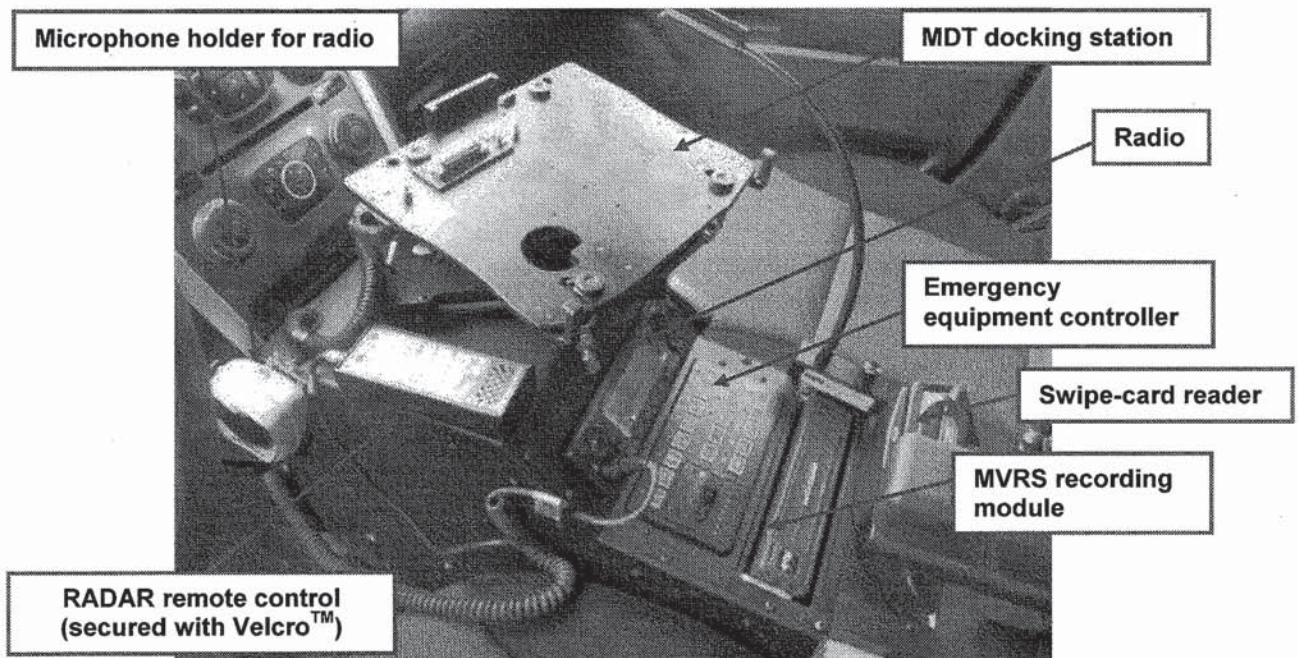

Figure 18 – Ergonomic mid-console configuration example
- d. An electronic swipe-card reader installed on the center console (see Figures 18 and 19).
31. *Figures 18 and 19* contain illustrated examples of ergonomic mid-console equipment configurations for use in Ford Police Interceptor Sedan marked MP vehicle. Although models and designs of commercially available ergonomic mid-consoles vary widely, the placement of police radio, emergency equipment controllers, and other features shall not vary from these diagrams.